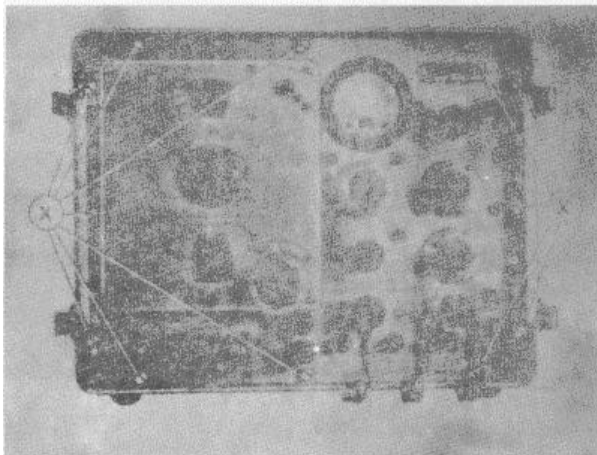

Figure 6-2. Front Panel View for Removal of RF Signal Generator SG-44B/URM-25 from Cabinet
- (1) Remove the power cable (W-101).
- (2) Loosen the twelve captive screws located around the outer edge of the panel (See figure 6-2).
- (3) Gently pull the generator chassis about eight inches from the cabinet, using the lifting handles provided on the front panel. The generator unit cannot be completely removed since the interconnecting power cable (W-102) and output power cable (W-103) are still connected to the power supply sub-chassis.
- (4) Remove the output power supply connector (P-102) and the AC input connector (P-101) from the